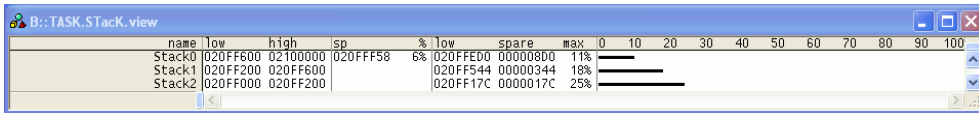

Figure 4.7: A graphical view of the application stack usage.
- Finally, Figure 4.6 and Figure 4.7 show information about the stacks that has been configured in the application. In particular, the first figure shows the stack name, size, base address, direction, and fill pattern, while the second figure shows in a graphical way the current stack usage. Please remind that to obtain the graphical stack usage estimation the application has to call `EE_trace32_stack_init` at system startup. In this example, `Stack0` is the shared stack used by the background task (that is, the `main` function), and by `Task2`. `Stack1` is used by `Task1`, and `Stack2` is the interrupt stack.